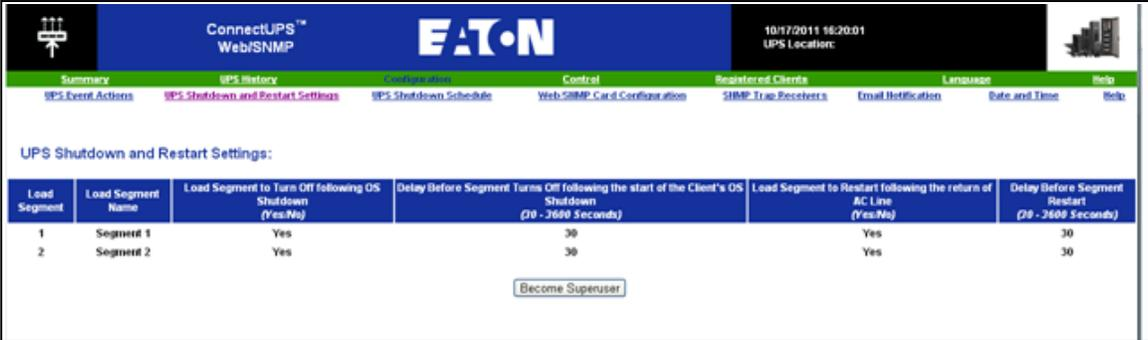

Figure 109. UPS Shutdown and Restart Settings
- For ConnectUPS-BD or ConnectUPS-X network cards, the Network Management Card default shutdown configuration is available from **Configuration > UPS Shutdown and Restart Settings** (see Figure 109).
- For ConnectUPS-BD or ConnectUPS-X network cards, the NMC default shutdown configuration is available from **Configuration > UPS Shutdown and Restart Settings** (see Figure 109)